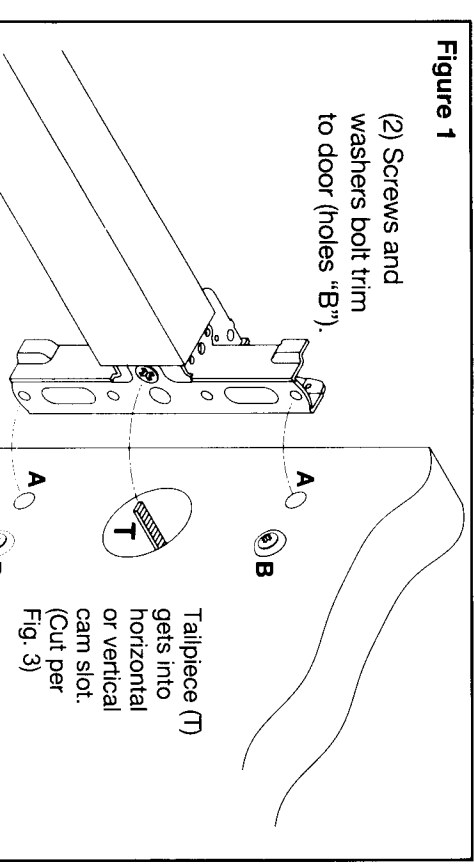

Figure 1
6. Mount trim to door. Fasten finger tight only with 2 screws and washers seating on door, as shown in Figure 1, plus one engaged to pull bottom stud.
8. Seat device so that trim tailpiece penetrates cam slot, as shown in Figure 1. Continue as shown in device instructions.